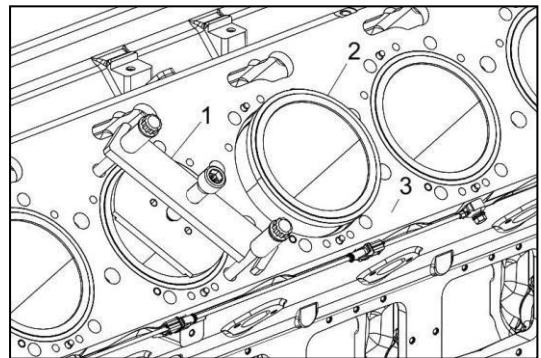

Figure 127
5. Install the cylinder liner installer (Figure 127, 1) on the engine block and nest the liner (Figure 127, 2) using the special tool.